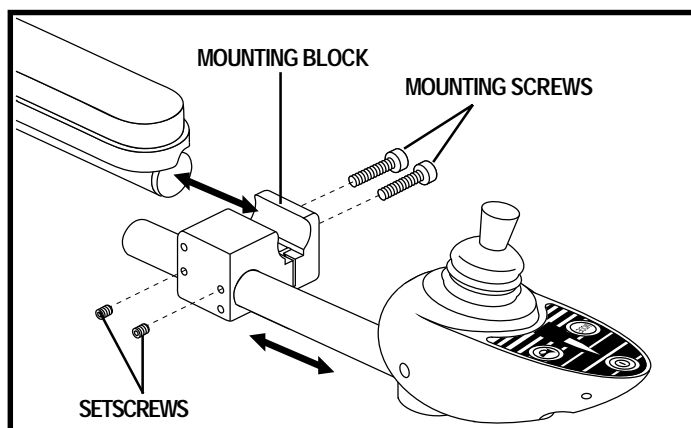

Figure 20. Controller Position - Mounting Block
5. Loosen the mounting screws in the controller mounting block. See figure 20.